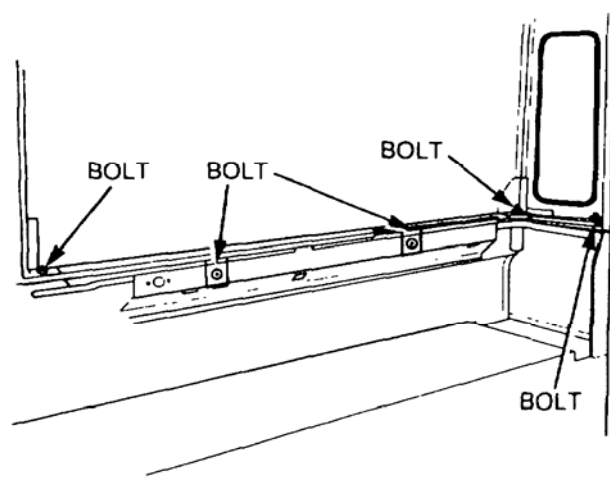

Figure 14 Removal of the Rear Body Bolts
- gg. Remove the ten nuts and bolts that secure the upper body panels to the lower body frame (Figure 14).
- t.** Using suitable overhead lifting equipment, with a minimum safe working load of 500 kg, install the upper body panels onto the vehicle. Fit the ten bolts, nuts and washers that retain the upper body panels to the lower body frame (Figure 14) and tighten securely.